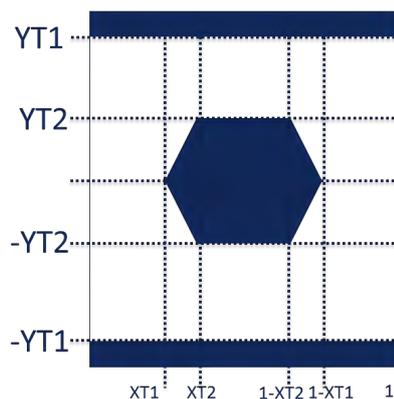

Figure 3 Serial link eye diagram
- See Figure 3 for illustration of these values on the eye diagram of the serial links.